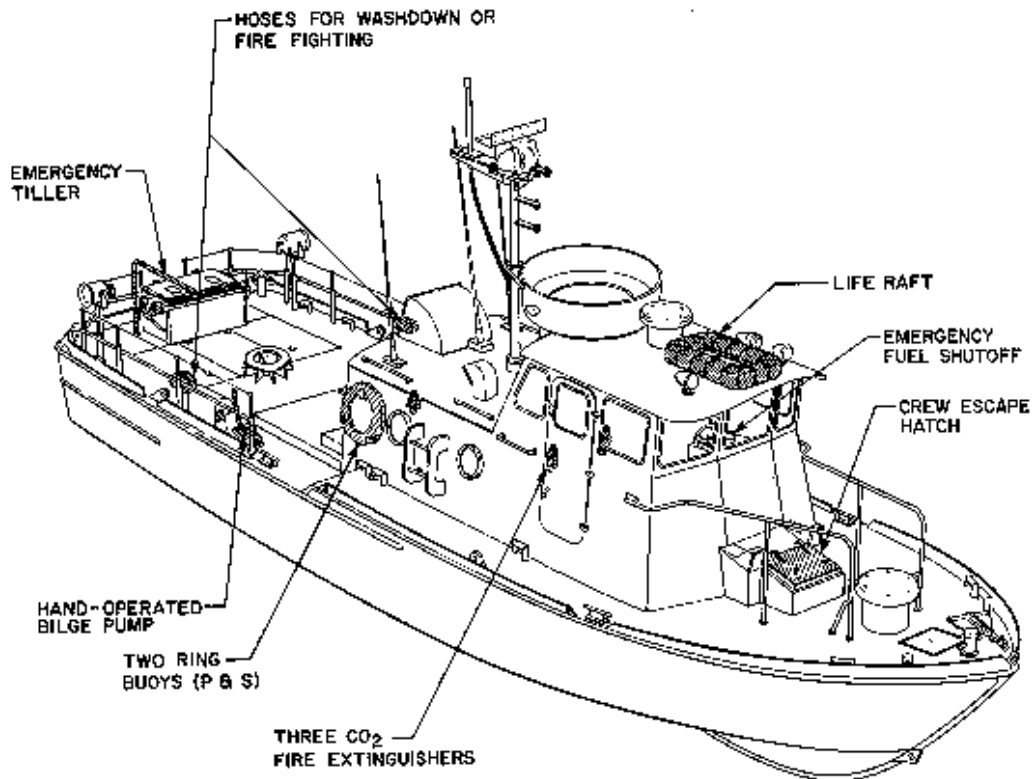

Figure 3-2. Emergency Equipment
3-90. EMERGENCY TILLER OPERATION (Figure 3-2).
- b. Familiarize each crew member in the location of the three CO₂ fire extinguishers (Figure 3-2), controls and equipment for the deck washdown system, three emergency fuel shutoff T-handles, and oxygen breathing apparatus. The T-handles are located in the pilothouse and are used to shut off fuel supply at applicable fuel tank.
- f. One portable CO₂ extinguisher is placed in the pilothouse and two CO₂ fire extinguishers are placed in the deckhouse (Figure 3-2) throughout the ship at strategic points. A monthly inspection should consist of weighing the extinguishers. Should they contain less than 90 percent of their proper charge, they should be replaced by a fully charged spare and recharged as